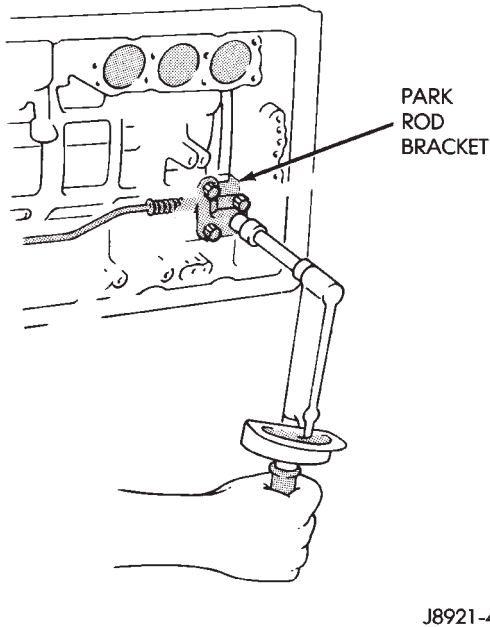

Fig. 33 Removing/Installing Park Rod Bracket
- (1) Remove valve body as outlined in this section.
- (2) Remove bolts attaching park rod bracket to case (Fig. 33).
(8) Install park rod and bracket (Fig. 33). Tighten bracket bolts to 10 N·m (7 ft. lbs.) torque.
(9) Install valve body, oil screen and oil pan as outlined in this section.